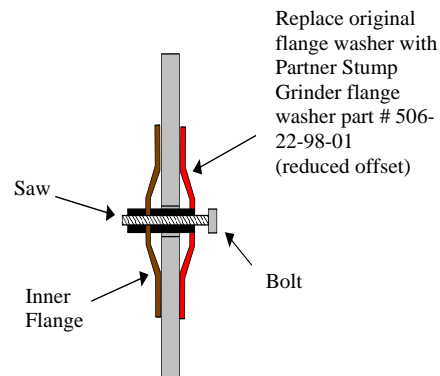

Figure 2
1. Purchase and install Partner Stump Grinder Flange Washer Part # 506-22-98-01. This style of flange washer has a reduced offset and will allow the "Double D" center hole to mate with the saw arbor shaft. (Available from your local Partner parts dealer for approx. \$35.00) See figure 2.